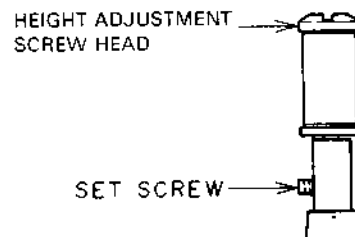

Fig. 5-12
- 1) Slightly loosen the set screw at lower part of the LOADING LEADERS (L), (R) so that LOADING LEADERS can be adjusted with reasonable tightness (Refer to Fig. 5-12.)